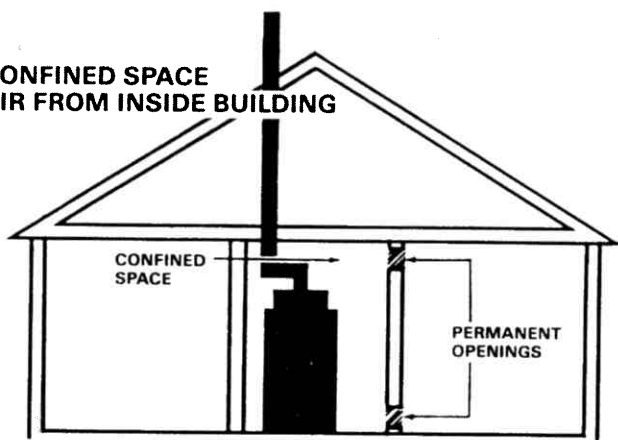
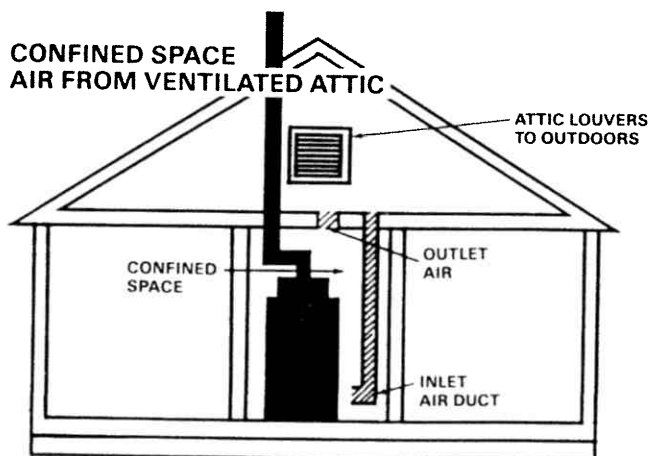

FIGURE 4
FIGURE 5
Confined spaces are installations with less than 50 cu. ft. of space per 1000 BTU/hr input from all equipment installed. Air for combustion and ventilation requirements can be supplied from inside the building as in Figure 4 or from the outdoors, as in Figure 5.
1. All air from inside the building as in Figure 4, Page 4: The confined space shall be provided with two permanent openings communicating directly with an additional room(s) of sufficient volume so that the combined volume of all spaces meets the criteria for an unconfined space. The total input of all gas utilization equipment installed in the combined space shall be considered in making this determination. Refer to Table 3, Page 4, for minimum open areas required.
2. All air from outdoors as in Figure 5, Page 4: The confined space shall be provided with two permanent openings, one commencing within 12 inches of the top and one commencing within 12 inches of the bottom of the enclosure. The openings shall communicate directly, or by ducts, with the outdoors or spaces (crawl or attic) that freely communicate with the outdoors. Refer to Table 3, Page 4, for minimum open areas required.